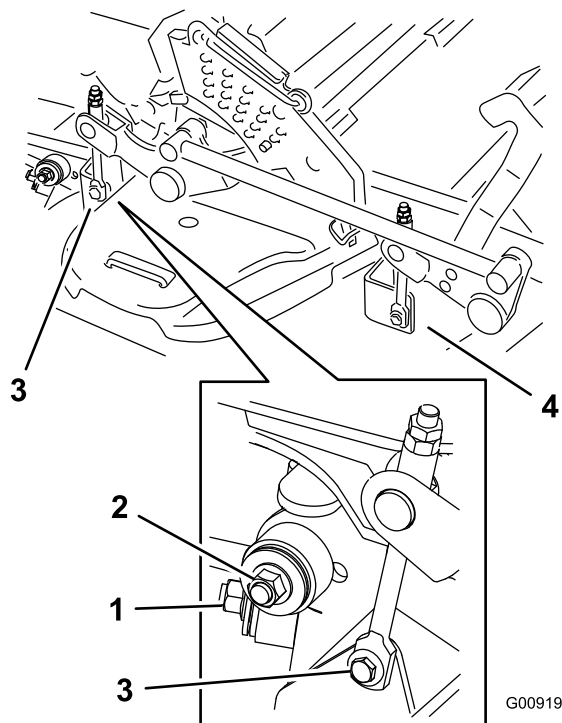

Figure 107
7. Remove and retain the hardware on both sides of the deck (Figure 107).